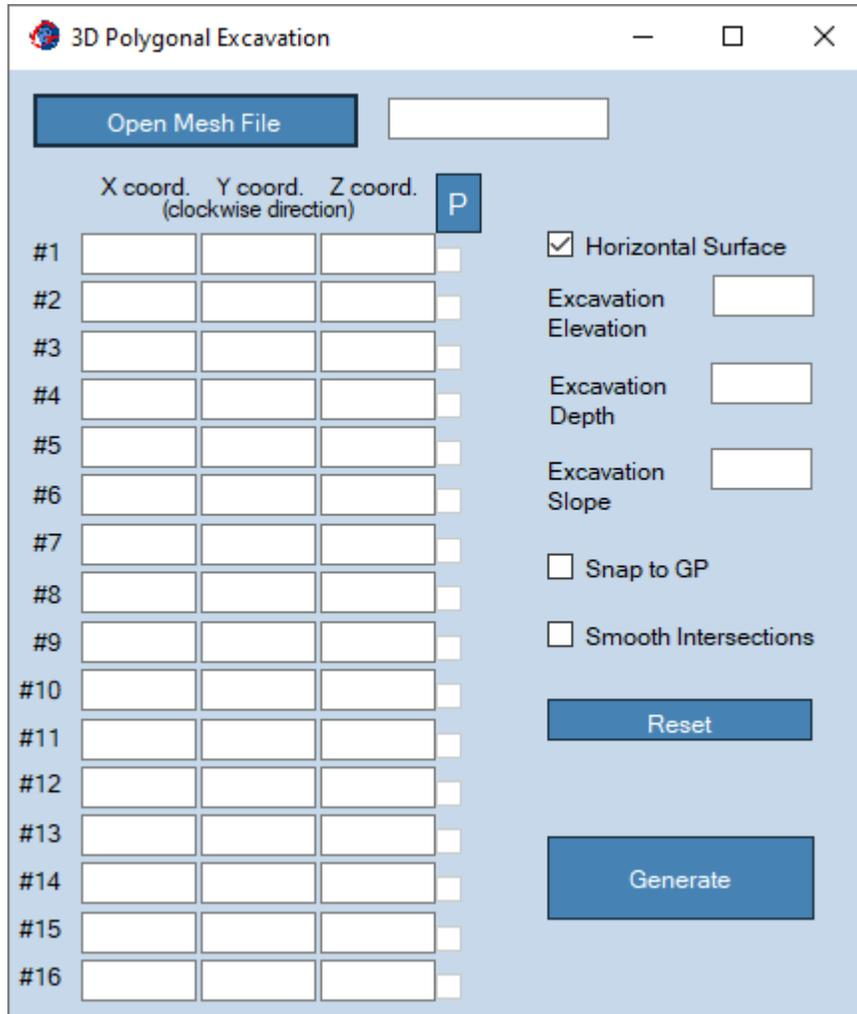

Figure 27: 3D Surfaces Menu – Polygonal Excavation.
- **Meshing Menu, Polygonal Excavation:** This option (shown in Figure 27) defines a Polygonal Excavation landform over any given surface.